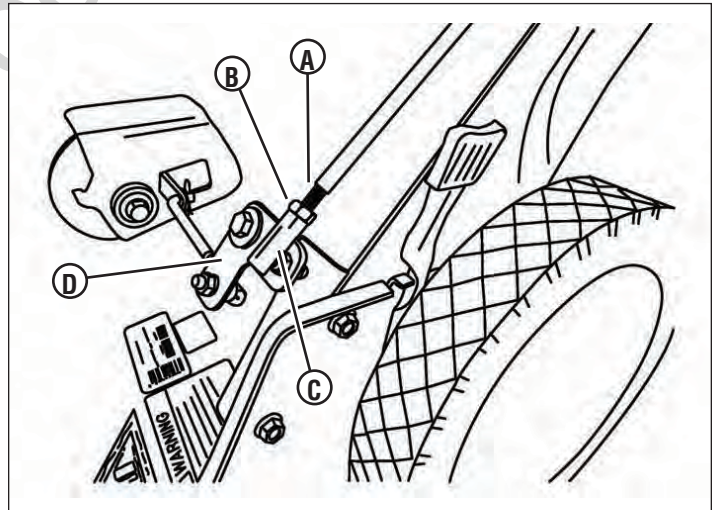

Figure 12
- Install the threaded end of the ground speed control rod (A, Figure 12), fitted with one 1/4-28 jam nut (B), into the ball joint (C) on the end of the speed control pivot arm (D). **IMPORTANT:** Do not move the pivot arm.